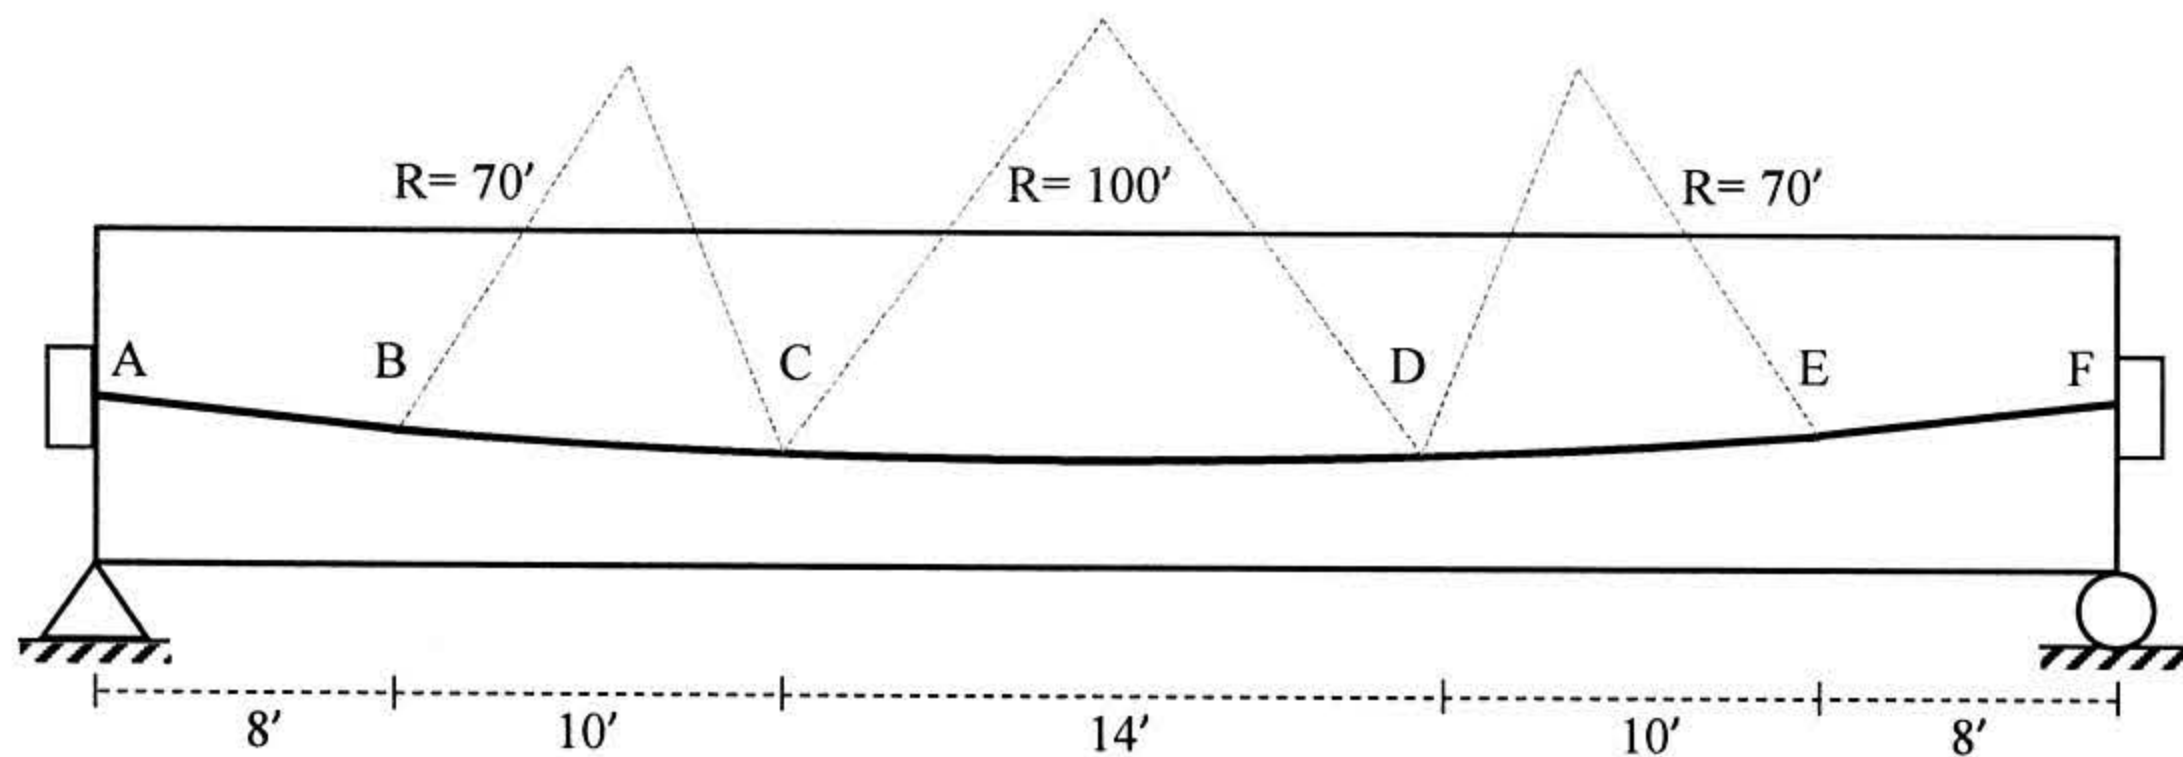

Figure 1
- 1.a) A post tensioned bonded concrete beam has curved tendons which are tensioned from left end as shown in **Figure 1**. Calculate the percentage loss of pre-stress due to friction, from one end to other end (A to F) of the beam. The average length effect is 0.00061 per feet and coefficient of friction between the cable and the duct is 0.35. 10